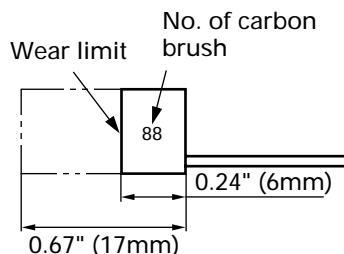

Fig. 6
4. Inspecting the carbon brushes (Fig. 6)
**NOTE:** Use HITACHI carbon brush No. 88 indicated in Fig. 6.